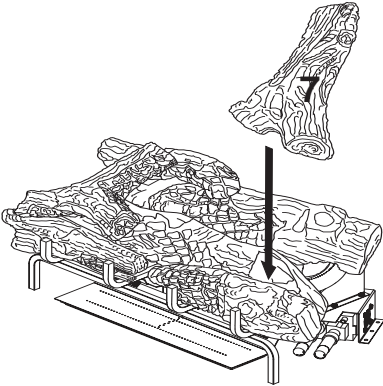

Figure 34 - Installing Log # 7
- Place the right crossover log (#7) on top of the middle log and rear log as shown in Figure 34, page 21. Match the round peg on the top of the rear log with the round hole on the bottom of the right crossover log and square peg on the top of the middle log with the square hole on the bottom of the right crossover log.